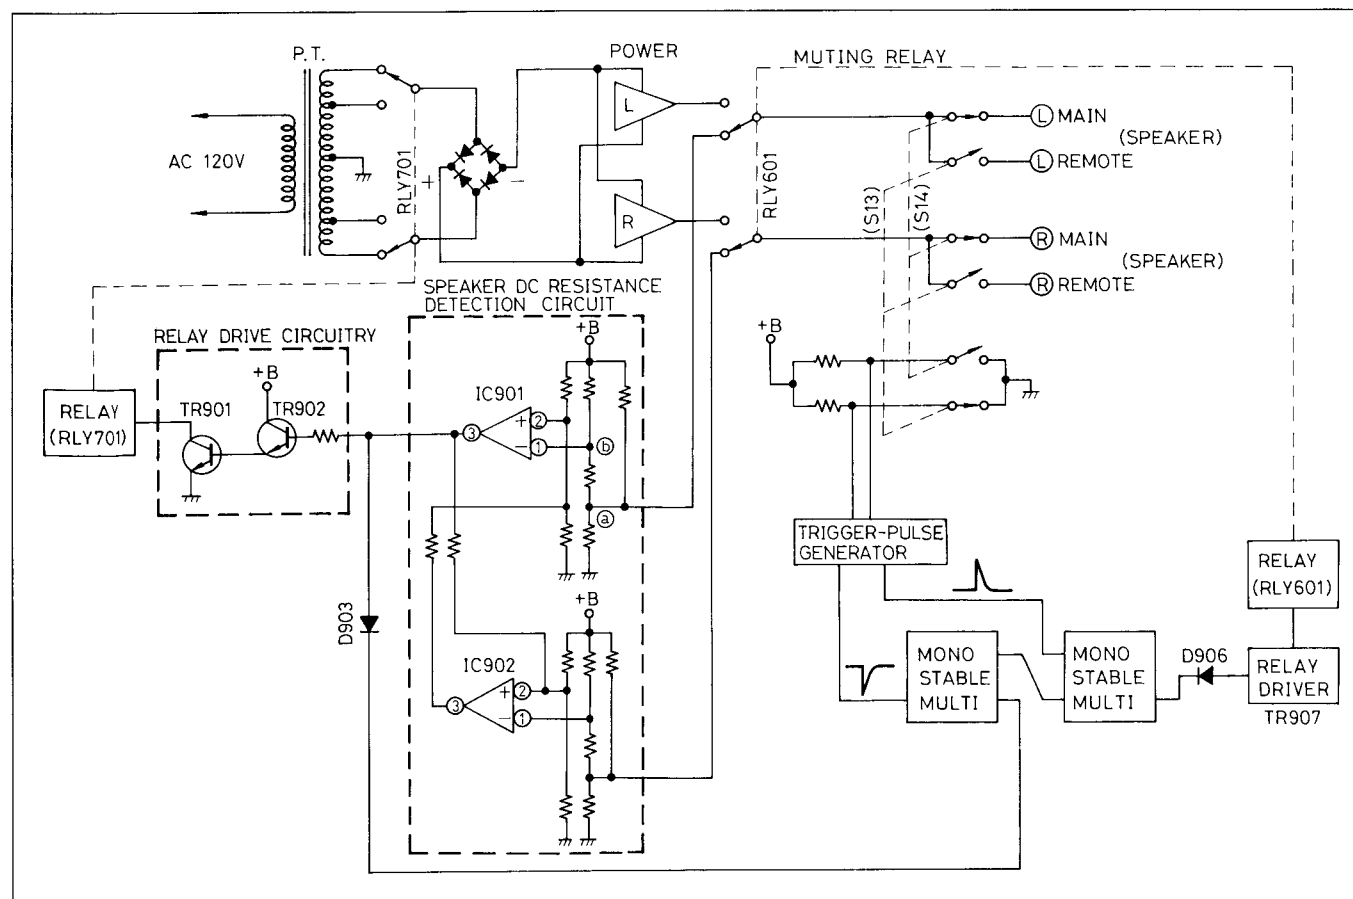

Fig. 1
After the speakers are connected to this unit, turn on the power switch. The muting circuitry of this unit will function for about 5 seconds, until output from the main amplifier appears at the speaker, thus maintaining the muting relay (RLY601) in the condition shown in figure 1. Speaker impedance is detected during this interval. With RLY601 in the condition shown in figure 1, the speakers will be connected in parallel to point (a) of the speaker DC resistance-detection circuitry, and the voltage at point (b) will decrease. With a reference voltage of 1.5V applied to terminal (2) of the comparator (IC901), a voltage of 6V will appear at terminal (3) when the voltage of terminal (1) becomes lower than that of terminal (2). In other words, the output voltage of terminal (3) activates TR902 and TR901 of the relay-drive circuitry, and the tap-selection relay (RLY701) switches over to the low-voltage tap. When  $8\Omega$  speakers are connected to the "MAIN" and "REMOTE" speaker terminals and both speaker switches are on, total impedance becomes  $4\Omega$ , and operation becomes the same as when speakers of  $6\Omega$  or less are connected.
However, because this transistor becomes on only at the instant that the positive pulse is applied, the collector also returns to positive potential about 0.3 second later. During this interval of about 0.3 second, the TR907 muting-relay-drive transistor becomes off, and RLY601 becomes in the condition shown in figure 1. Then speaker impedance is detected as described in items 1, 2 and 3, and the tap-selection circuitry is activated.